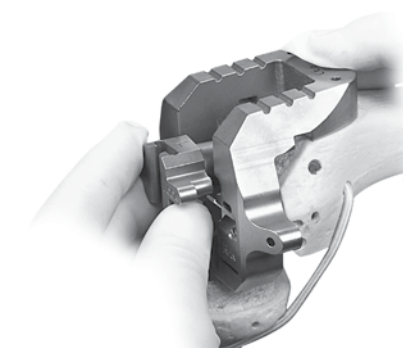

Fig. 43
- Insert the stem/bushing assembly into the RH Knee Notch/Chamfer Guide (Fig. 43), ensuring that the proper "R" or "L" (right or left) designation is showing anteriorly.